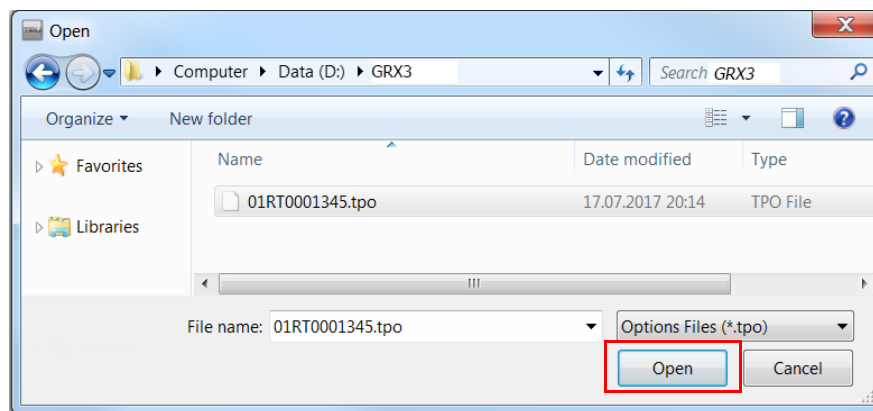

Figure 5-7: Load OAF
- Select the appropriate file, and click **Open** (Figure 5-7).